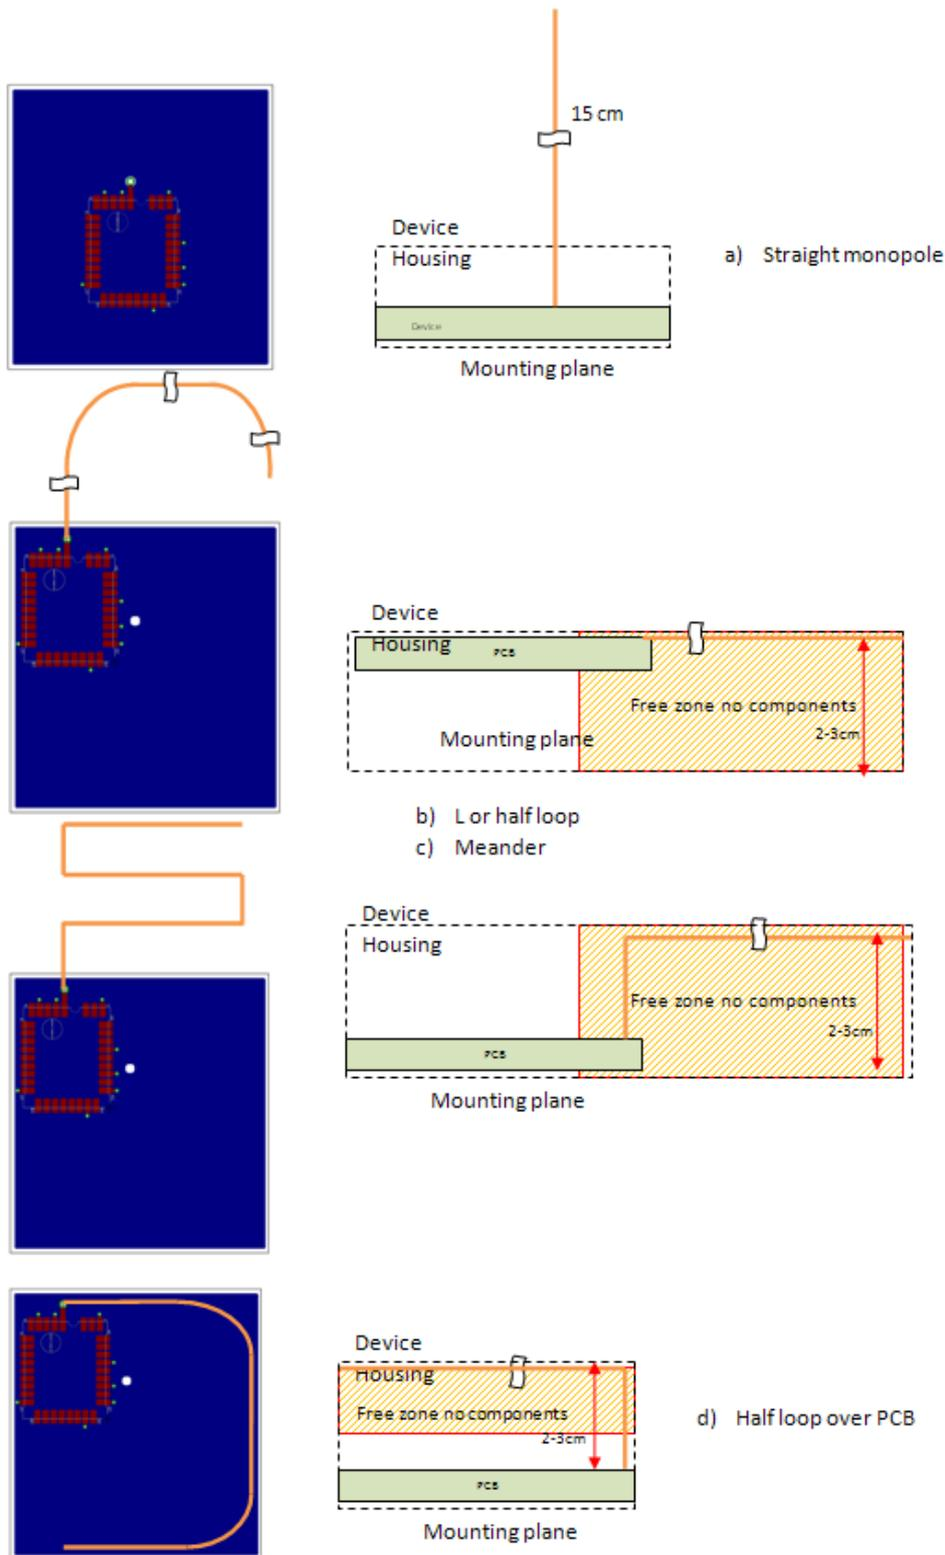

Fig. 2
Some adequate, more practical configurations are shown in the Fig. 2, antenna efficiency decreasing from a (better) to d (poorer), depending on the available place. The space from antenna to mounting plane (as this can be conductive) is important.
- Please follow advice given in the antenna reference designs (Fig. 2, 5-7).